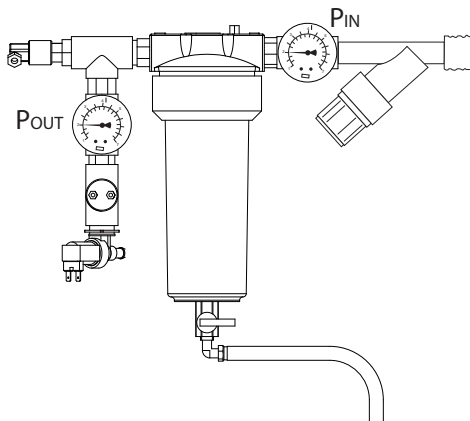

Fig. 1.a
The filters should be checked monthly, while the 9" filter (Fig. 1.c) should only be replaced if the pressure difference between the two pressure gauges in Fig. 1.a is > 0.5 bars.
- drain the filter: open the bottom valve on the filter, press the plug at the top to completely drain the filter (Fig. 1.b).